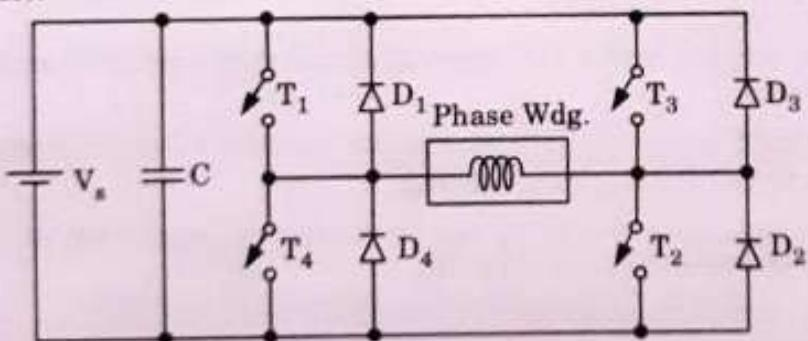

Fig. 2.14.2. Bipolar drive circuit for PM or HSMs.
4. A 1 ϕ full-bridge DC-AC converter as shown in Fig. 2.14.2, is commonly employed for PM (Permanent Magnet) and HSMs (Hybrid Stepper Motor).